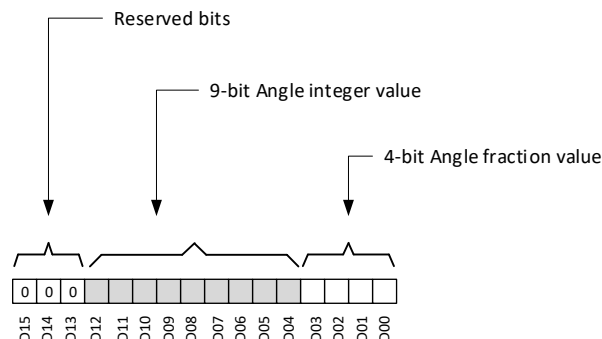

Figure 8. Angle Data Definition
The TMAG5170-Q1 calculates the angle based off the **ANGLE_EN** register bit settings. The **ANGLE_RESULT** register stores the angle information in the 13-LSB bits as shown in Figure 8. Bits D04-D12 store angle integer value from 0 to 360 degree. Bits D00-D03 store fractional angle value with a resolution of 1/16 degree. The 3-MSB bits are always populated as b000. The angle can be calculated using Equation 5.
- D_i is the data bit as shown in Figure 8.